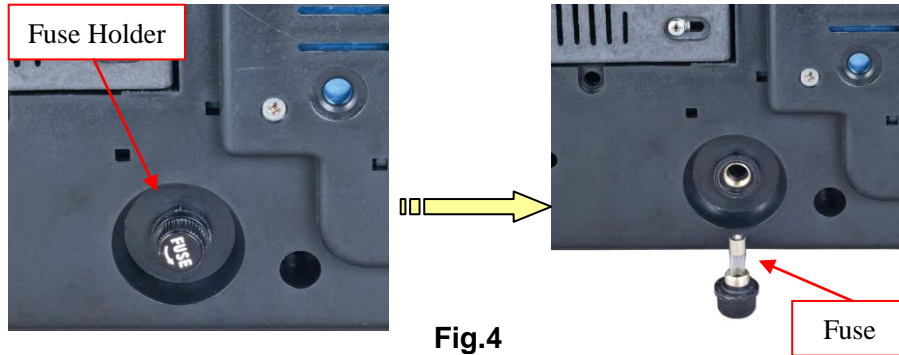

Fig.4
- 3) Turn the fuse holder counter-clockwise to take it off, replace the fuse, and then turn it on clockwise. See **Fig. 4**.